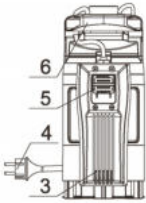

Fig. 1
6. INSTALLATION: Place the pump on a firm surface or use a rope attached through the bore hole in the carrying handle (6) of figure 1 to immerse the pump in a well or a tank.
SELECTING OPERATION SWITCH: Pump has two operation options. Select automatic or manual operation by switch (5) of figure 1. In automatic operation pump will work, only when there is enough water in the tank. In manual operation pump will work continuously, regardless if there is water or not in the tank. Caution in manual operation, not to burn the motor due to dry run.